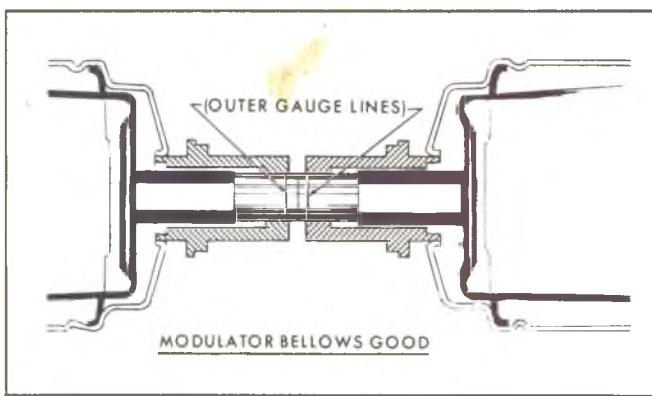

Fig. 38T—Modulator Bellows (Good)
- Holding the modulators in a horizontal position, bring them together under pressure until either modulator sleeve end just touches the line in the center of the gauge (Fig. 38T). The gap between the opposite modulator sleeve end and the gauge line should then be 1/16" or less. If the distance is greater than this amount, the modulator in question should be replaced.